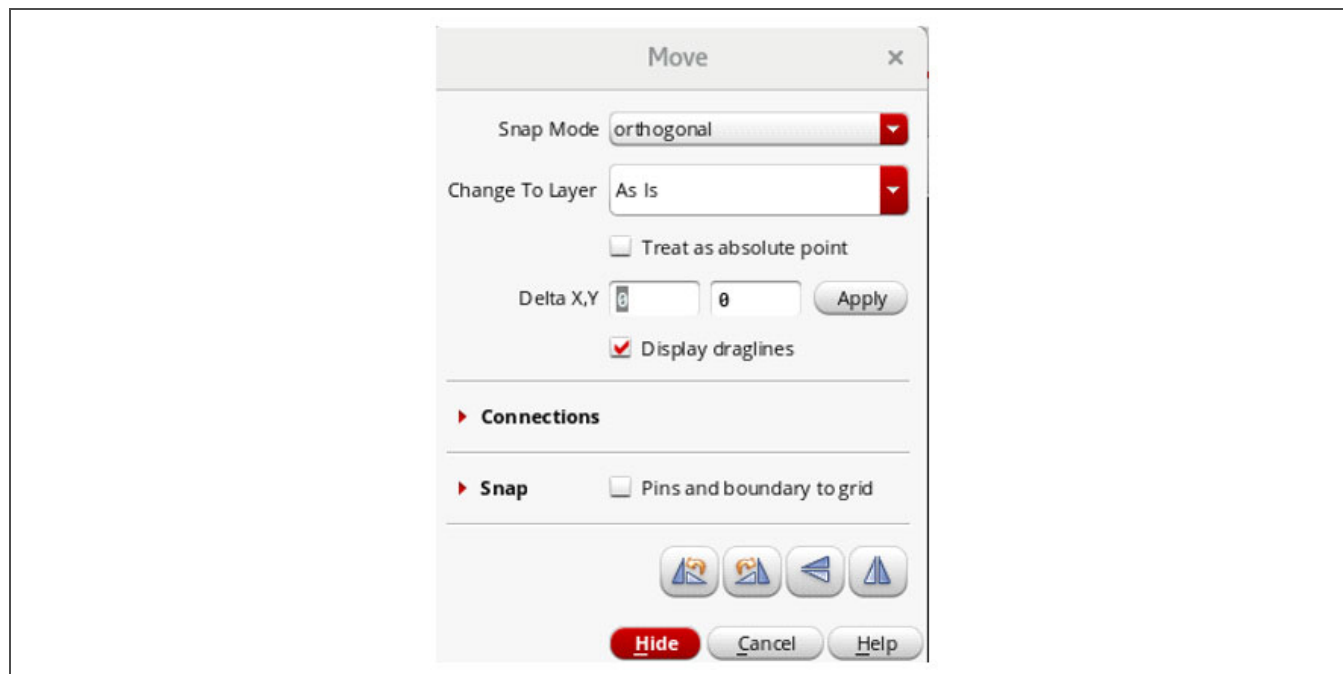

Figure 4-9. VXL Move Form
9. While moving an object, press the F3 function key to open the Move options form, shown in *Figure 4-9* on page 82, and set the **Snap Mode**.